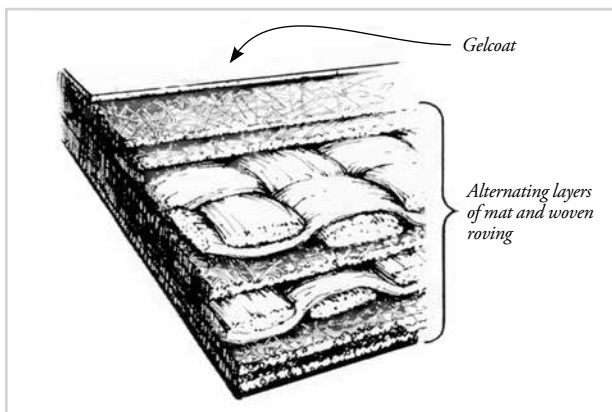

Figure 1-1 Typical solid (single skin) fiberglass laminate. Various reinforcing fabrics are bonded together with polyester resin.
Generally, production fiberglass boat hulls are built in a female mold. A release agent is first applied to the surface of the mold, over which the gelcoat material is applied. Gelcoat is usually a pigmented, unsaturated polyester resin and may be anywhere from 12 to 22 mils thick. It is designed to act as a moisture barrier for the underlying laminate, as well as to provide a smooth, glossy, cosmetic finish. Subsequent layers of fabric are saturated with resin and laid up over the gelcoat. There are as many lay-up schedules as there are boats. A typical hull section might consist of the layer of gelcoat, several alternating layers of mat and woven roving, and in many cases a core material such as end grain balsa or foam, followed by several more alternating layers of saturated mat and woven roving (Figures 1-1 and 1-2). Hull thickness may vary from boat to boat. Older boats were often laid up with a solid glass laminate thickness of 1 1/2" (3.8 cm) to as much as 5" (12.7 cm) in the keel areas of the more heavily-built boats. Today, however, the trend is toward thinner, lighter laminates, making the structural integrity of each of the laminate components all the more critical.
- b. Minor cracks or scrapes that run through the gelcoat into the first chopped strand mat layers of the laminate (Figure 1-1) should be repaired with epoxy using the procedures described below (Section 2.1). Finish with the gelcoat repair technique described later in Section 15.3.2. If necessary, reinforce the laminate to reduce flexing as described in Section 3.6.